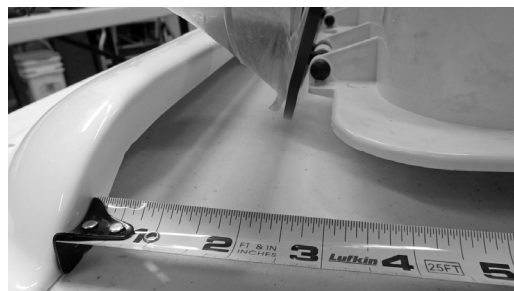

Figure 2
2. Position the template where the hole will be cut, and mark the roof for cutting. Make sure that the position of the cut allows for the installation of the spoiler, if used. The trailing edge of the spoiler should be located 3 inches ahead of the leading edge of the hatch mounting flange. See Figure 2. If the spoiler is not used, allow room to the closest structure to allow for full opening of the hatch. There should be 1/2" minimum clearance from the open hatch to the nearest structure at full opening.